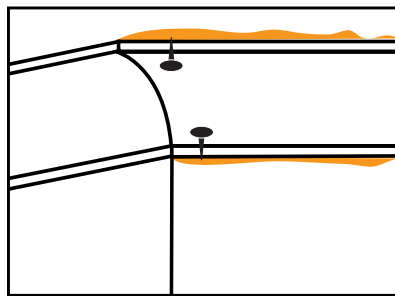

FIGURE 73 Position Cornice
- > Press the cornice into place and if necessary hold with temporary nails in the wall and ceiling along the edges of the cornice [Figure 73]